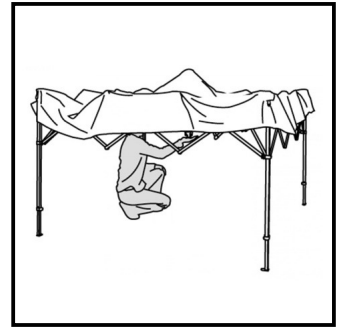

Fig. 6
- i) Step underneath the canopy and firmly push the centered frame handle upward until the clamps snap into place and rest securely over the frame brace. (see Fig. 6&7)
- a) inserting the stakes through the ends of the legs. (see Fig. 6)